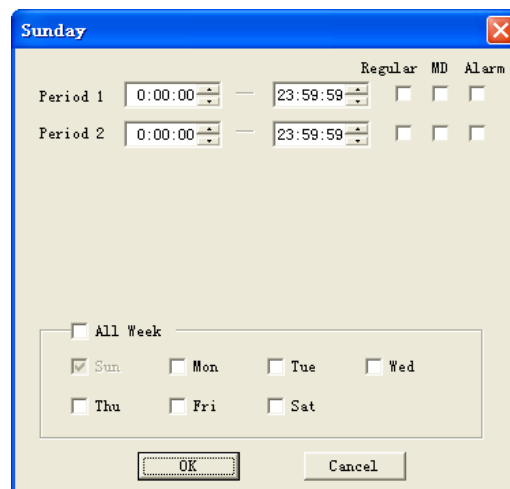

Figure 7-35
- Time period: Click set, you will see an interface as in Figure 7-35. You can check the box to select the file type. System supports multiple choices.